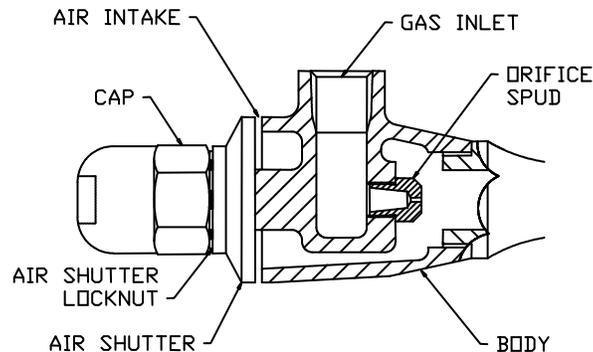

Figure 1 - Air Injection Assembly
2. Disconnect fuel supply to air injector at "Gas Inlet", Fig. 1.